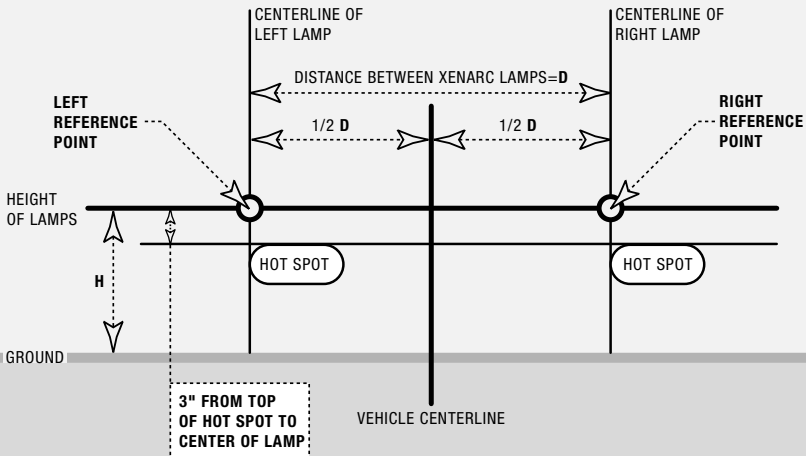

FIGURE 9
- 3 Measure and record the height from the ground to the center of the Xenarc Auxiliary Low Beam lights on the vehicle (“H” in FIGURE 9).
- 4 Measure and record the distance between the center points of the mounted Xenarc Auxiliary Low Beam lights (“D” in FIGURE 9).